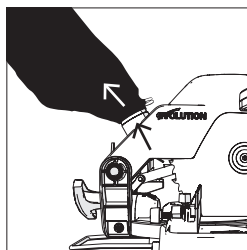

Fig. 31
- Slide the dust bag over the dust extraction port, ensuring that the spring clip grips the port holding the dust bag securely in place (**Fig. 31**).